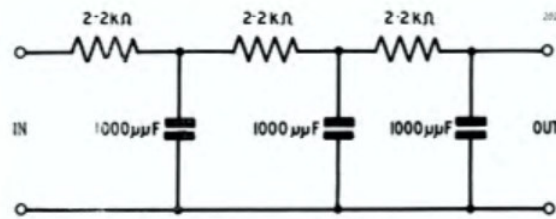

Fig. 5.6 R-C Filter.
- (q) **R-C Low-pass Filter** as shown in Fig. 5.6.